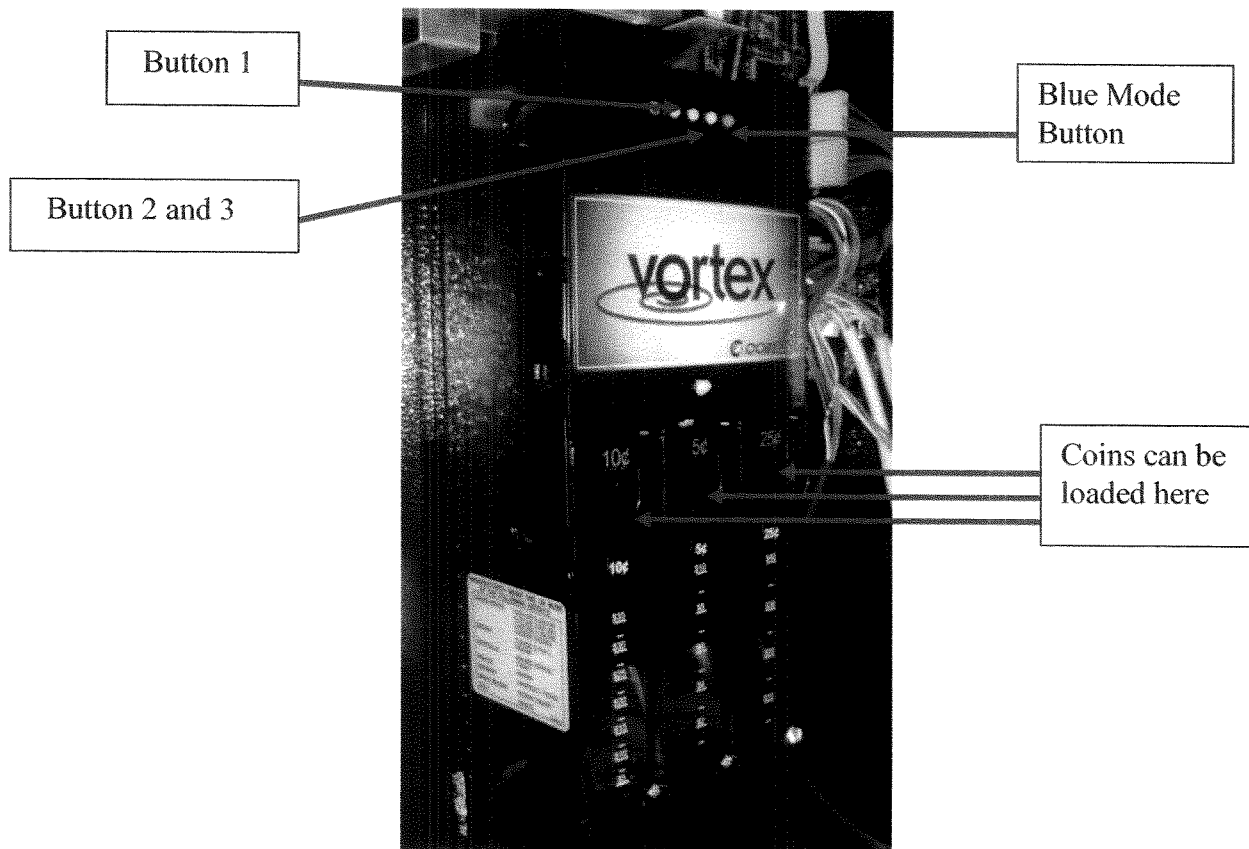

Figure 23 – After coins are loaded press blue “MODE” button
- b. Load coins into the “hopper” 1 coin at a time (*reference figure 23*).